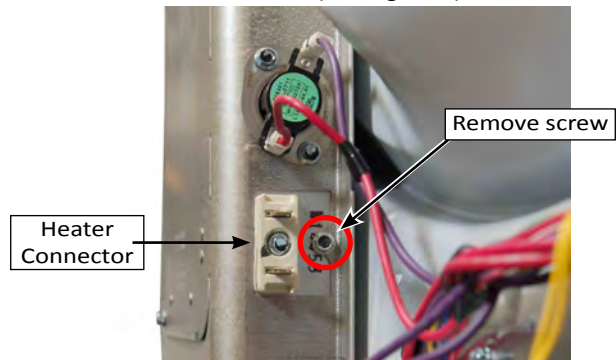

Figure 3
5. Remove the 1/4" hex-head screw securing the heater connector to the inlet duct (see Figure 3).